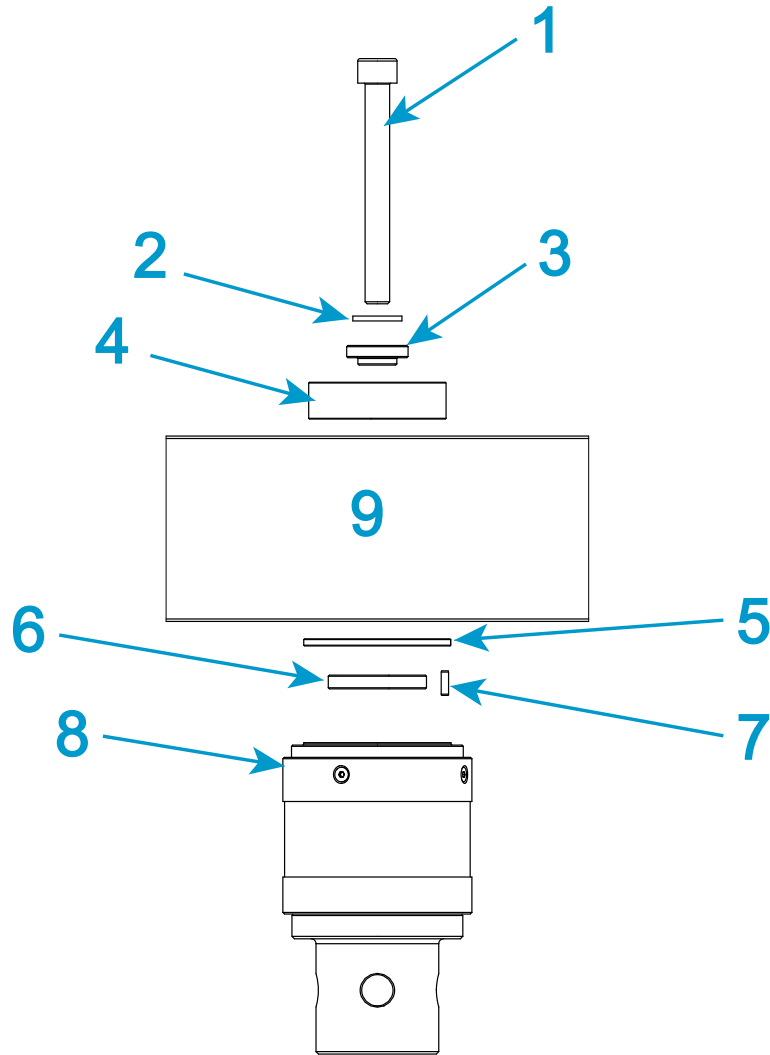

Figure 22. Install a 2530 series load cell - capacities 500 N through 5 kN
Legend for Figure 22
1. Refer to Figure 22 and its associated table and collect together the correct mounting hardware.
2. Assemble the hardware shown above the crosshead in Figure 22 and place it into the top of the central bore of the crosshead.